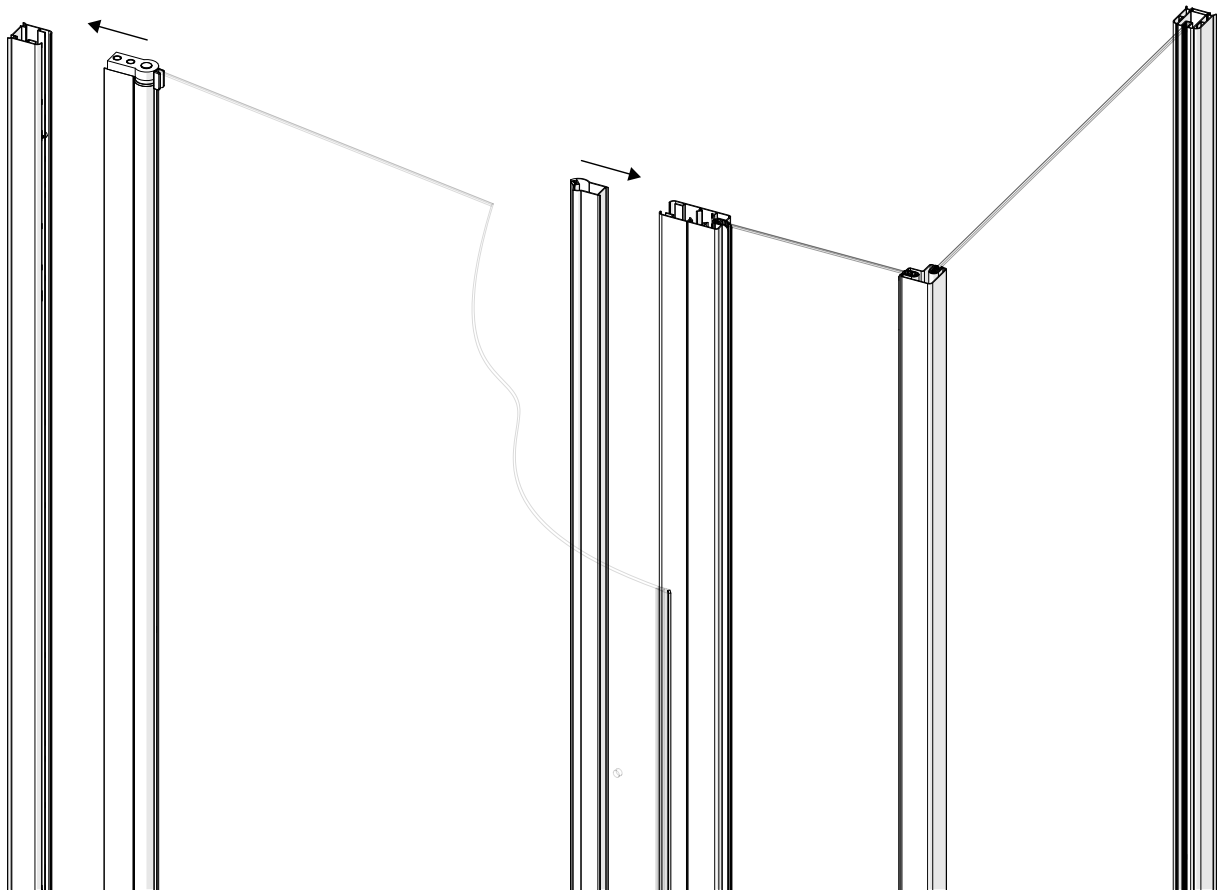

Fig. 3.1
- I. Insert the door(s) into the wall comp(s) or whopper(s). *Figure 3.1*